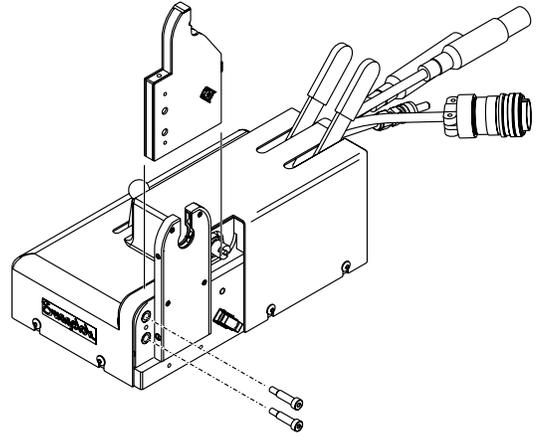

Figure 35 *Installing the Fixed Side Plate*
5. Secure the fixed side plate with screws. Tighten the fasteners 1/8 to 1/4 of a turn past finger-tight. See Figure 35.